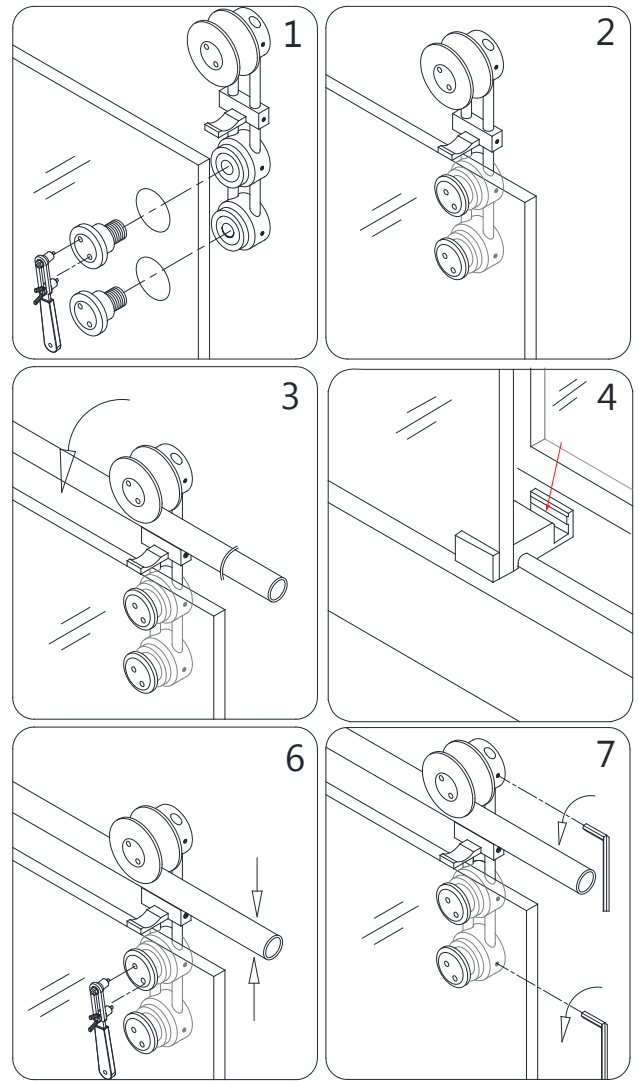
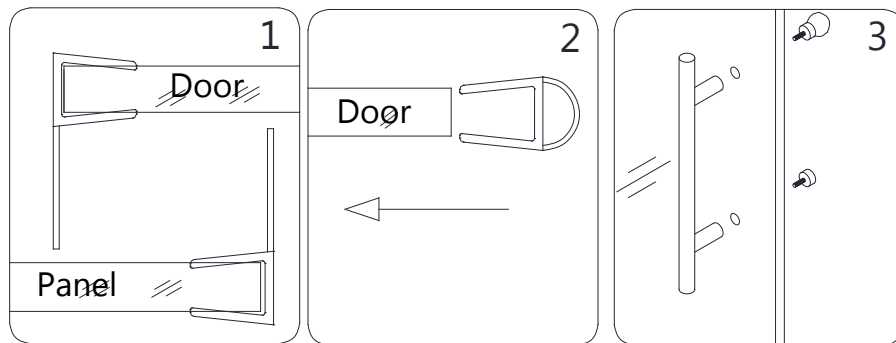

Fig. 18
Fig. 19
(Fig. 18 and Fig. 19)
16. Press the **Anti-Water Strip (#14)** on the vertical edges of the **Stationary Glass (#02)** and the **Door Glass (#05)**. Press the **Bumper Seal Strip (#13)** onto the vertical edge of the **Door Glass (#05)**. Attach the **Handle (#06)** to the **Door Glass (#05)**. (Fig. 19)
Adjust the **Roller Guards (Fig. 18)** on both **Roller Assemblies (#04)** to within 1/16" of the **Upper Guide Rail (#03)** to ensure that the **Door Glass (#05)** is secure. **(Fig. 22a and Fig. 22b)**